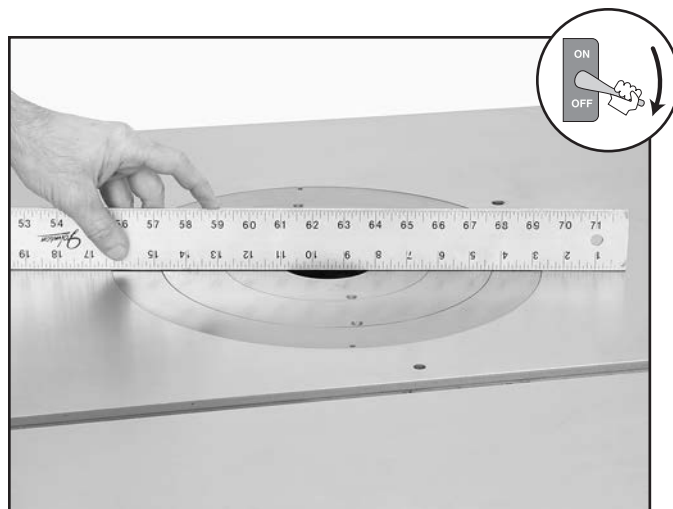

Figure 51. Using a straightedge to adjust the table insert.
5. Place a straightedge across the table and center the table insert (see **Figure 51**).